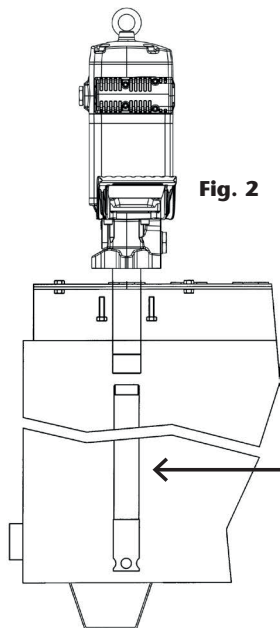

Fig. 2
- Direct drum or tank mounting. Screw the proper suction tube (see Fig. 2) to the foot valve of the pump. Insert the tube through the drum/tank cover. Secure the pump to the cover with M10 screws (4 holes @ 112 mm center hole pattern diameter).